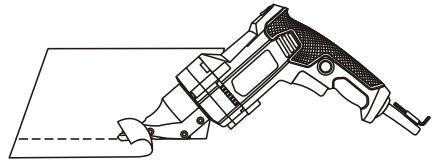

Fig. 5
2. Squeeze the switch trigger and gradually move the cutting blades into the workpiece (Fig. 5).